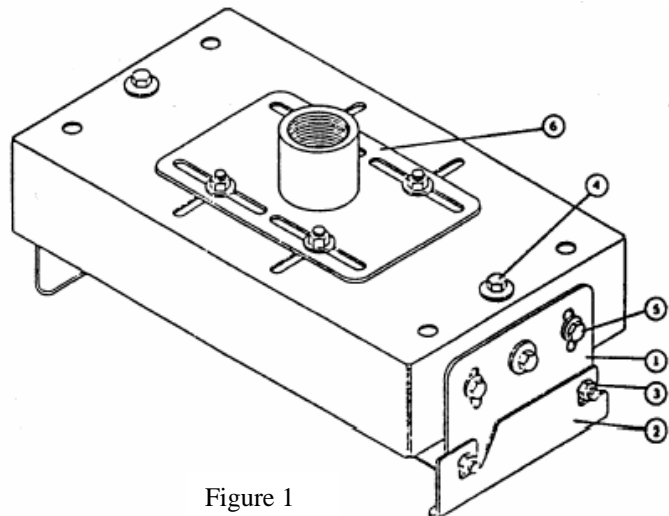

Figure 1
3. Using two people lift the projector and install it to the studs extending from the mounting plate (see Figure 1, item 1). Be sure the HB-Hanging Bracket (2) is seated in the slots.
4. Using a wrench, tighten four 5/16" flange nuts securing slide bracket (6).